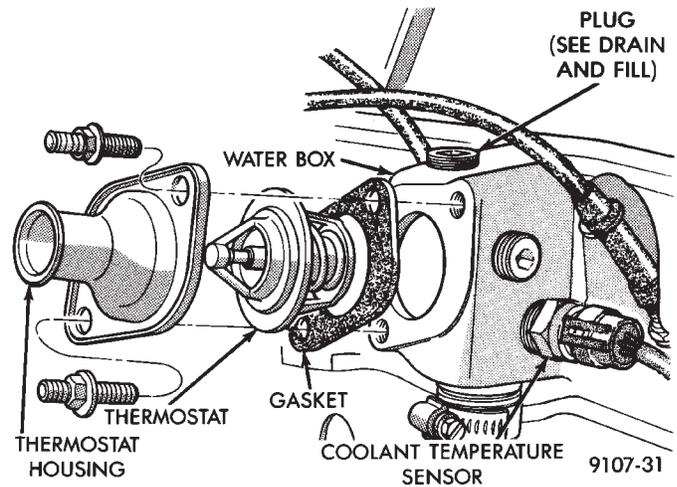
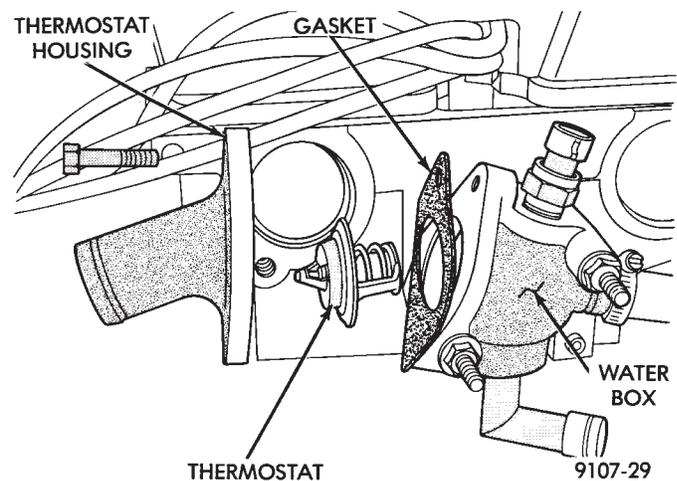

Fig. 9 Thermostat, Housing, and Water Box—2.2/2.5L Engine
Fig. 10 Thermostat, Housing, and Water Box—Turbo III
The 2.2 and 2.5L engine thermostats are located on the front of the engine (radiator side) in the water box which is part of the cylinder head construction (Fig. 9). Turbo III thermostat is located in the water box located on the driver side of the cylinder head (Fig. 10).
(1) Drain cooling system down to thermostat level or below.
(2) Remove thermostat housing bolts and housing (Figs. 9, 10, 11 and 13).
(3) Remove thermostat, discard gasket and clean both gasket sealing surfaces.
Place a new gasket (dipped in clean water) on water box surface, center thermostat in water box on gasket. Place housing over gasket and thermostat, making sure thermostat is in the thermostat housing. Bolt housing to water box (Figs. 9 and 10). Tighten bolts to 28 N•m (250 in. lbs.). Refill cooling system (see **Refilling System**).